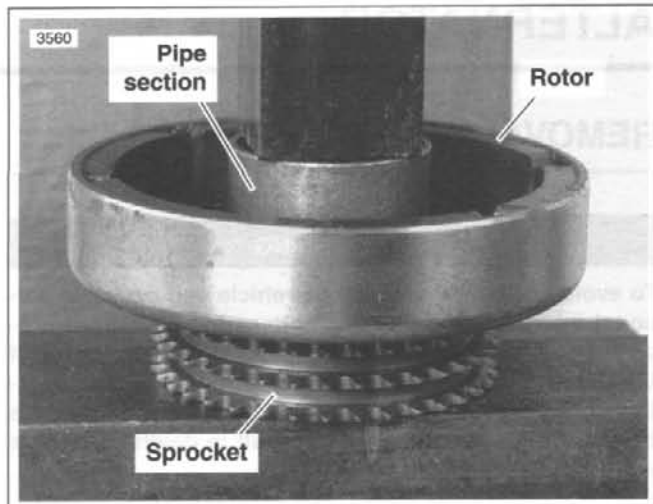

Figure 7-26. Pressing Rotor onto Sprocket
6. See Figure 7-26. Attach rotor to sprocket.